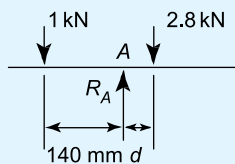

Figure 6.7
- Determine distance d and the force acting at the support A for the force system shown in Figure 6.7, when the system is in equilibrium.
- If the 1 kN force shown in Figure 6.7 is replaced by a force F at a distance of 250 mm to the left of R_A , find the value of F for the system to be in equilibrium.